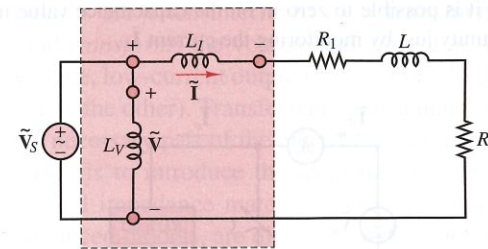

Figure 7.33
- To measure the power dissipated by the load, we must know the current through and the voltage across the entire load circuit. This means that the wattmeter must be connected as shown in Figure 7.33. The wattmeter should read